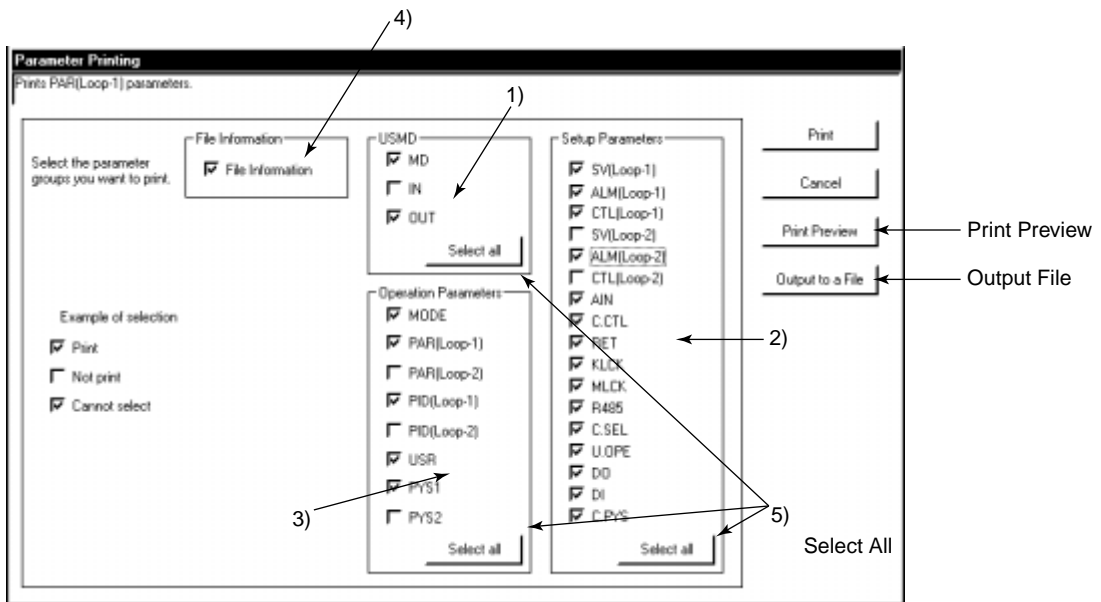

Figure 7.1.1 [Parameter Printing] Dialog Box
- (1) Make sure the printer is connected to the personal computer.**
- (2) From the tool menus, choose <File>, then <Print>. The [Parameter Printing] dialog box (Figure 7.1.1) appears.**
- (3) Click the check boxes to choose the data items to be printed.**